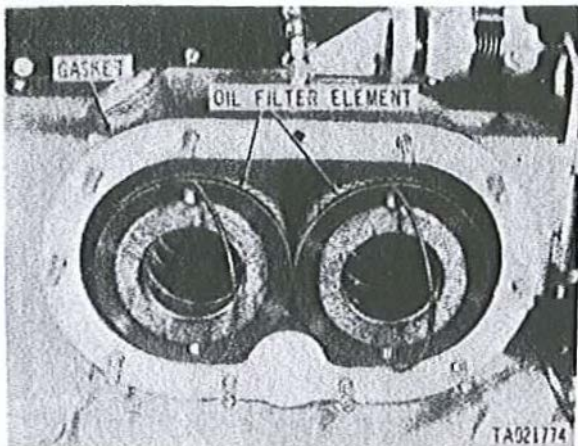

Figure 2-96. Installing oil filter elements.
(5) Remove and discard gasket (fig. 2-96). Remove and discard oil filter elements. Clean filter body with a suitable clean, lint-free cloth being careful not to drop any foreign particles into drain holes.
(1) Install two new oil filter elements (fig. 2-96),